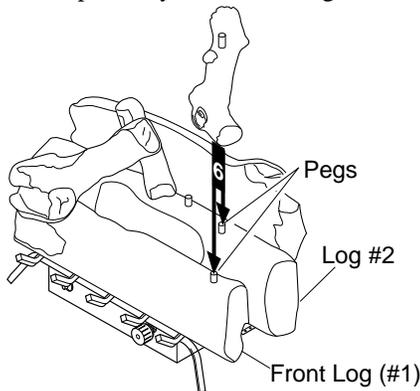

Figure 33 - Installing Crossover Log (#6) (CCL3930NTA Shown)
- Locate holes on the bottom of crossover log (#6). Slide these holes onto the right pegs located in middle log (#2) and front log (#1). See Figure 33.